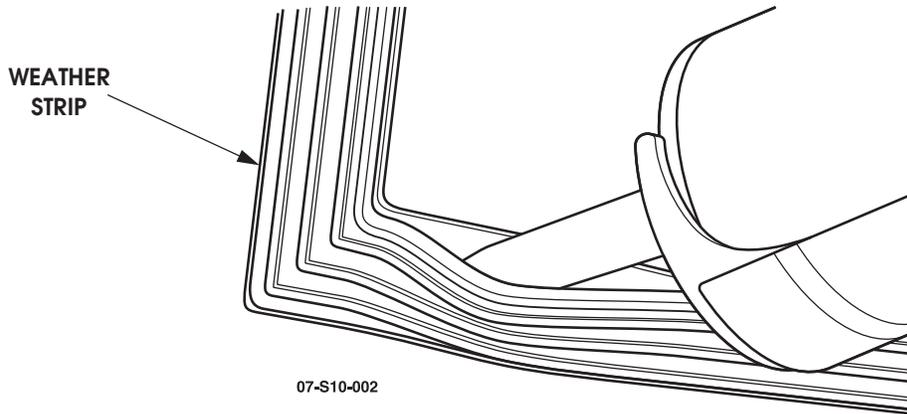

Figure 2: Bedding Compound Installation
1. Apply a 1/8 inch (3 mm) bead of 3M Bedding and Glazing Compound in the glass receiving groove of the weather strip (See Figure 2).